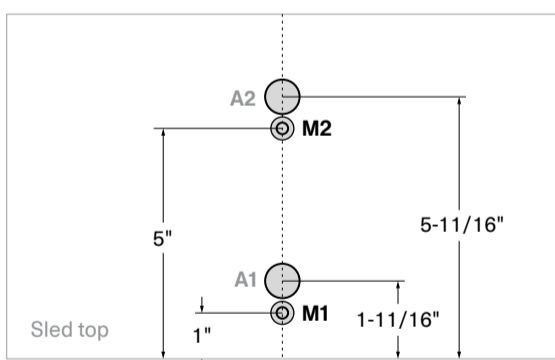

Fig 2a - Miter bar mounting and adjustment holes
- 2.3 Drill a 3/4" (19mm) diameter through hole at each of the adjustment hole locations, A1 and A2 [Fig 2a].
- 2.5 Drill 1/4" (6mm) through holes in the center of the counter bores, M1 and M2 [Fig 2a].